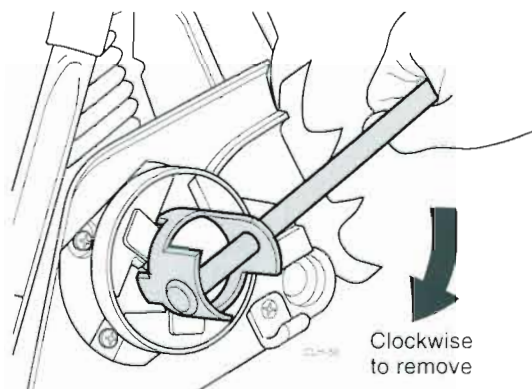

Figure 6.8 Removing the Clutch Shoe Assembly
STEP 5. Using the appropriate clutch shoe puller tool, rotate the clutch shoe assembly clockwise to remove (Figure 6.8).